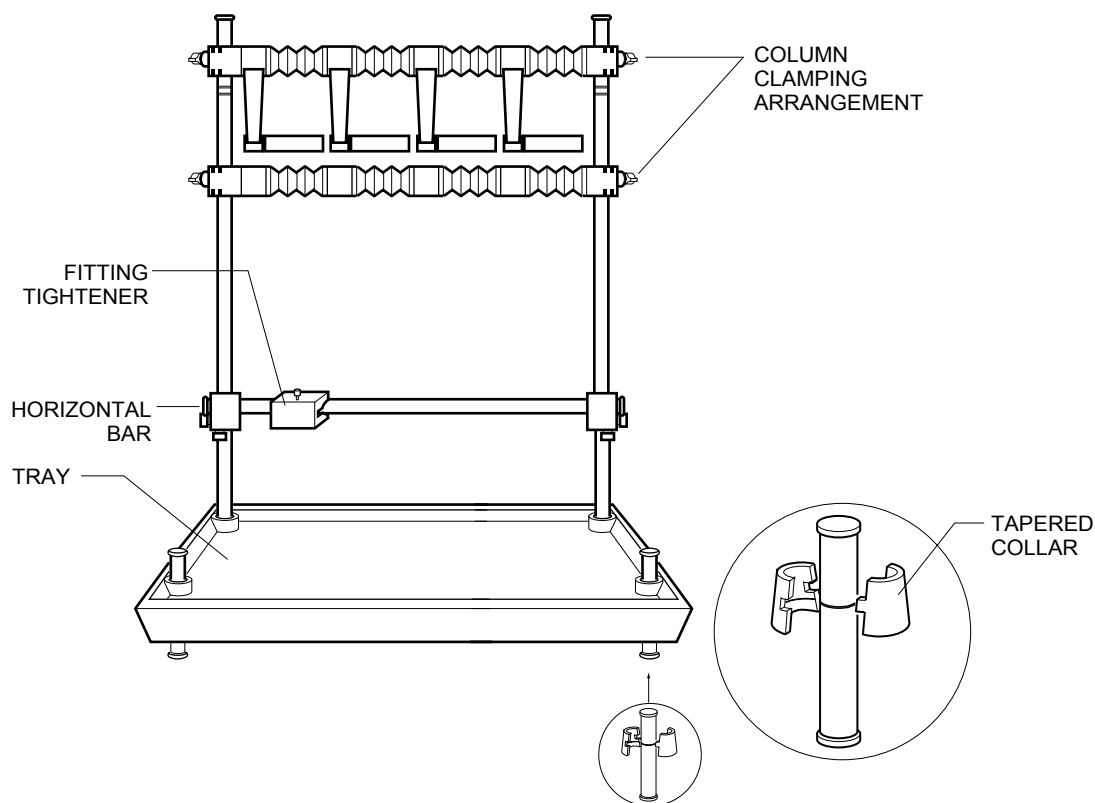

Figure 14. Rack Assembly
- The short rods each have only one groove. Fit the collars onto the grooves so that the collars flare out toward the farthest end of the rod. Refer to Figure 14.